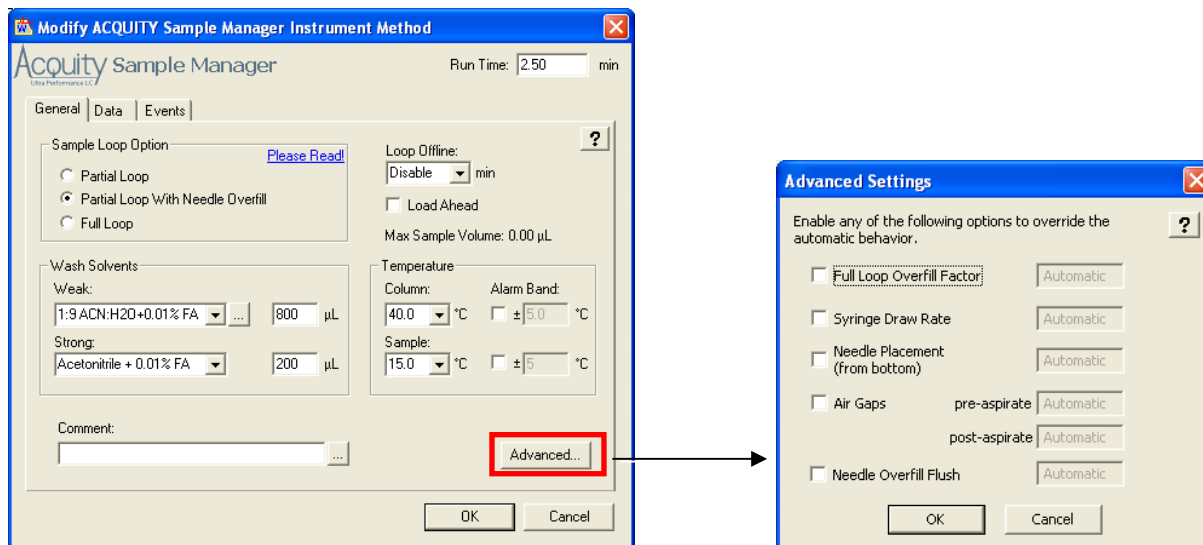

Figure 19 - Sample manager settings
5. Create an autosampler method for the familiarization tests with the settings shown in Figure 19.